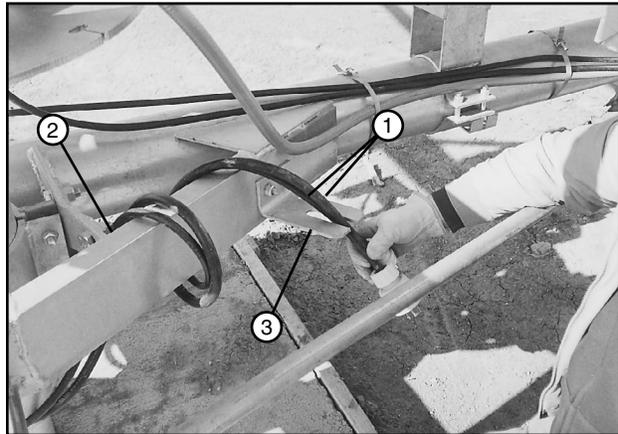

Figure 38-2 1. Cord
6. Wrap the cords around the tongue mounting channels and place the ends of the cords into the receptacle holder bracket. See Figure 38-2.